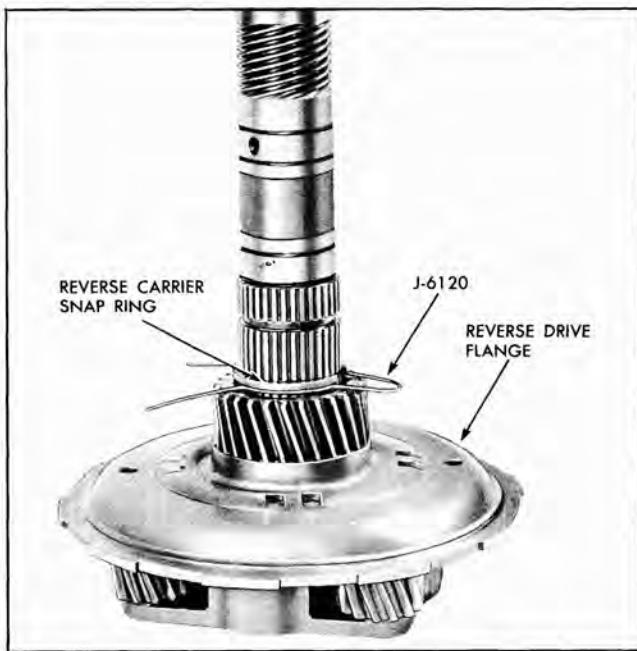

Fig. 85 Reverse Drive Flange Retainer Tool in Position
4. Install reverse planet carrier front snap ring on output shaft (Fig. 85).
5. Insert reverse drive flange retainer J-6120 between snap ring and flange snug against rear unit carrier to prevent selective washer from dropping out of position (Fig. 85). NOTE: When the selective washer used between the reverse drive flange and rear unit planet carrier is at or near the upper limit of thickness, retainer tool J-6120 cannot be inserted between snap ring and flange. In this case, however, it is not necessary to use the retainer since there is not enough clearance to allow the thrust washer to drop out of place.